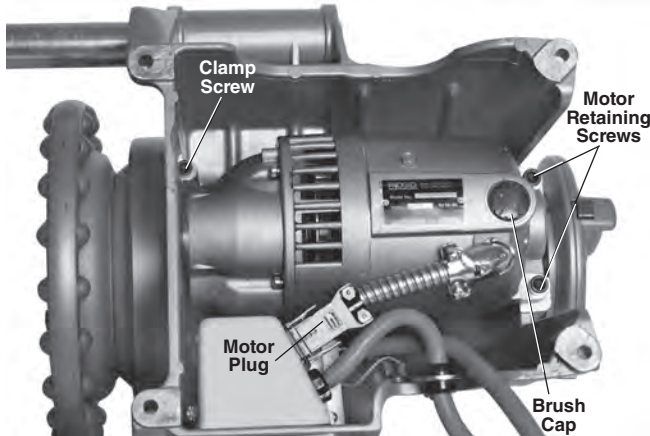

Figure 32 – Removing Motor Cover/Changing Brushes
3. Set machine on a clear and stable bench. Turn machine over for access to underside (*Figure 32*).